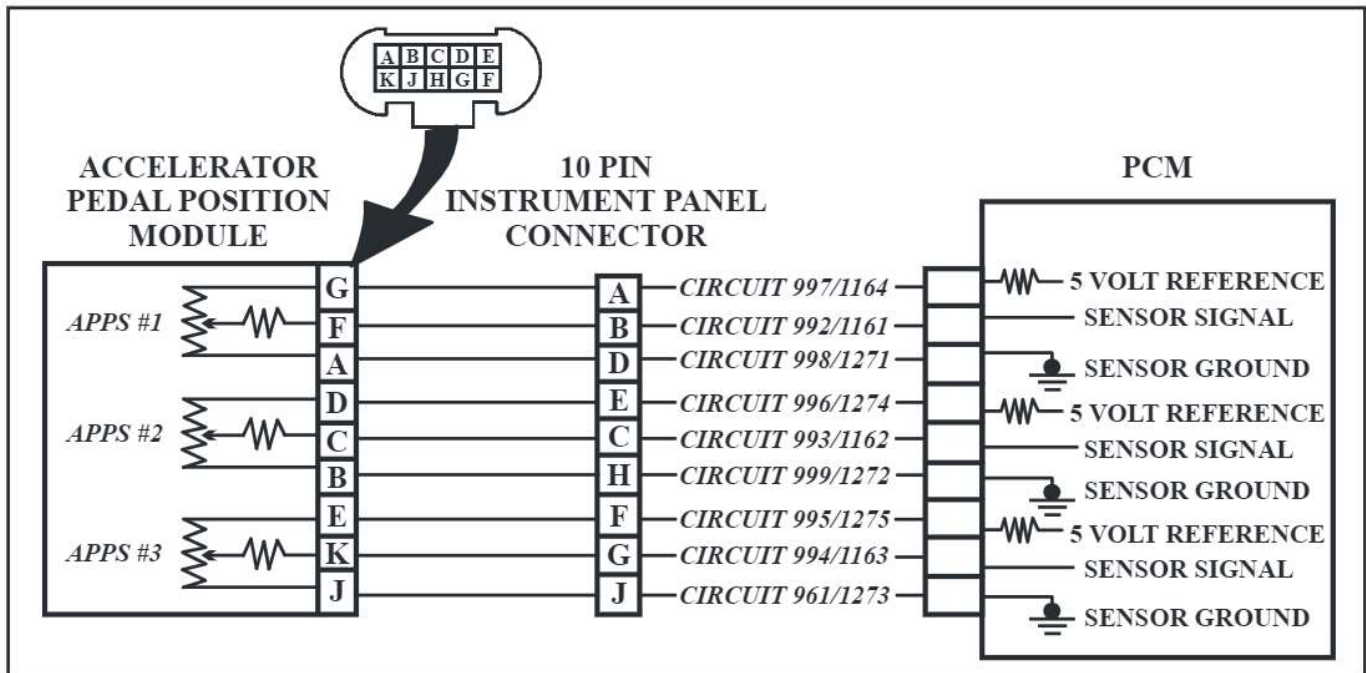

Figure 67
- The APPS Module contains three individual TP sensors. Contained inside the module are three 5 volt reference voltage circuits, three individual signal circuits and three individual ground circuits, (Refer to Figure 67).
- The APP Sensor #1 Ground Circuit 998/1271 is faulty, (Refer to Figure 67).
- The APP Sensor #1 Five Volt Reference Circuit 997/1164 is shorted to system voltage, (Refer to Figure 67).
- The APP Sensor #1 Signal wire Circuit 992/1161 is shorted to power, (Refer to Figure 67).
- The APP Sensor #1 Signal wire Circuit 992/P01161 is open or shorted to ground, (Refer to Figure 67).
- The APP Sensor #1 Five Volt Reference Circuit 997/1164 has less than 5 volts, (Refer to Figure 67).
- The APP Sensor #1 Five Volt Circuit 997/1164 is open or shorted, (Refer to Figure 67).
- The APP Sensor #1 Ground Circuit 998/1271 is open, (Refer to Figure 67).
- The APP Sensor #2 Ground Circuit 999/1272 is faulty, (Refer to Figure 67).
- The APP Sensor #2 Five Volt Reference Circuit 996/1274 is shorted to system voltage, (Refer to Figure 67).
- The APP Sensor #2 Signal wire Circuit 993/1162 is shorted to power, (Refer to Figure 67).
- The APP Sensor #2 Five Volt Reference Circuit 996/1274 has less than 5 volts, (Refer to Figure 67).
- The APP Sensor signal Circuit 993/1162 is open or shorted to ground, (Refer to Figure 67).
- The APP Sensor #2 Five Volt Circuit 996/1224 is open or shorted, (Refer to Figure 67).
- The APP Sensor #2 Signal Circuit 993/1162 is faulty, (Refer to figure 67).
- The APP Sensor #2 Ground Circuit 999/1272 is open, (Refer to Figure 67).
- The APP Sensor #3 Ground Circuit 961/1273 is faulty, (Refer to Figure 67).
- The APP Sensor #3 Signal wire Circuit 994/1163 is shorted to power, (Refer to Figure 67).
- The APP Sensor #3 Five Volt Reference Circuit 995/1275 is shorted to power, (Refer to Figure 67).
- The APP Sensor #3 Five Volt Reference Circuit 995/1275 has less than 5 volts, (Refer to Figure 67).
- The APP Sensor #3 Signal wire Circuit 994/1163 is open or shorted to ground, (Refer to Figure 67).
- The APP Sensor #3 Five Volt Circuit 995/1275 is open or shorted, (Refer to Figure 67).
- The APP Sensor #3 Signal wire Circuit 994/1163 is faulty, (Refer to Figure 67).
- The APP Sensor #3 Ground Circuit 961/1273 is open, (Refer to Figure 67).
- The APP Sensor #3 Five Volt Circuit 996/1274 is open or shorted, (Refer to Figure 67).